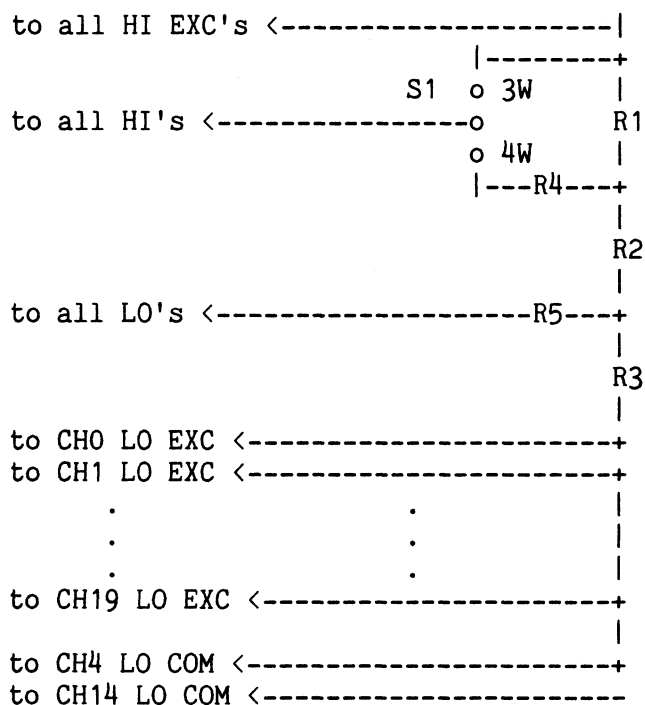

Figure 163-12. Test Input Connector Schematic
3. Wire the RTD/ Resistance INPUT Connector as shown in Figure 163-12, with all connections to R1, R2, and R3 made to the resistor leads.